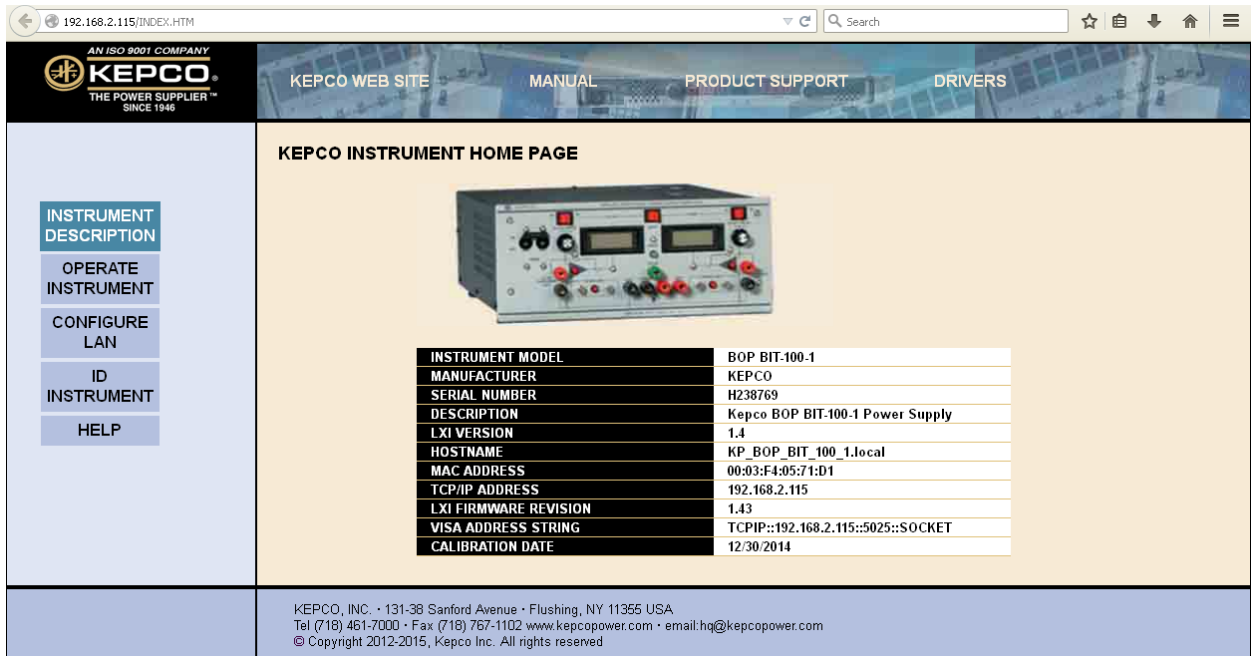
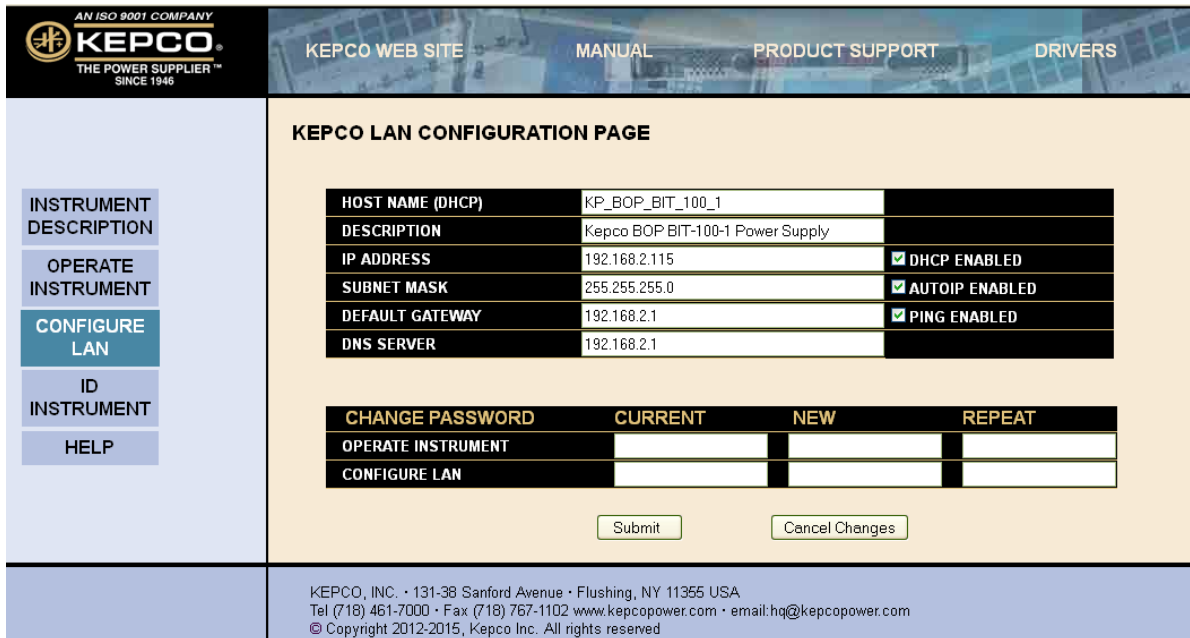

FIGURE 4-4. WEB INTERFACE HOME PAGE (UNIT DESCRIPTION)
FIGURE 4-5. WEB INTERFACE CONFIGURE LAN PAGE
After finding the unit and selecting the desired unit on the LAN (see PAR. 4.3.2), click the Launch Webpage button to open the BOP/BIT 802E Instrument HOME PAGE (UNIT DESCRIPTION) in your default browser (see Figure 4-4). You can also launch the web page in any browser by entering the IP address as the URL.
From the Web Interface Home Page (Figure 4-4) click on CONFIGURE LAN at the left to view the LAN Configuration page (Figure 4-5). The parameters that can be configured from this page are Host Name (DHCP), Description, IP Address, Subnet Mask address, Default Gateway Address, and DNS Server Address. Separate check-boxes allow enabling of DHCP, AUTOIP and PING. Descriptions of these terms can be viewed by clicking the HELP box at the left. If a data entry fault condition exists, an alert window indicates the type of fault. Click OK to close the window; the SUBMIT button is disabled until the fault is corrected.
- The CONFIGURE LAN password restricts the ability to change the LAN configuration parameters shown on the CONFIGURE LAN page (Figure 4-5.)
When SUBMIT is clicked after new IP address information is entered, the front panel LAN indicator blinks rapidly while the unit validates the IP address. If the address is valid, the browser returns to the INSTRUMENT HOME page (Figure 4-4). If the address entered is already in use, the following note appears towards the top of the page: